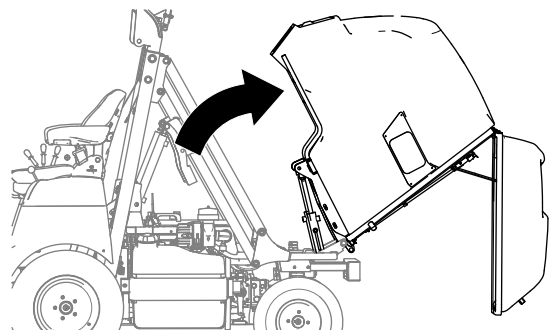

Figure 56
2. Pivot the hopper up and back (Figure 56) by hand.